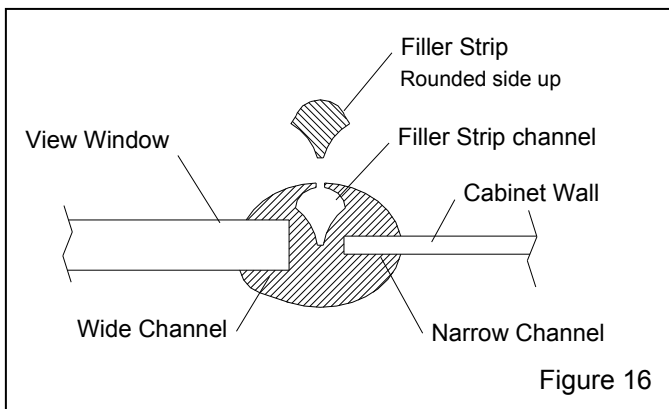

Figure 16
6.4.5 If the window molding needs replacing, replace it in the same manner as the old; the narrow channel fits over the metal edge of the opening, as shown in Figure 16. The molding ends should meet in the middle of the top straight section of the opening. Molding should be compressed so the ends are tightly sealed.